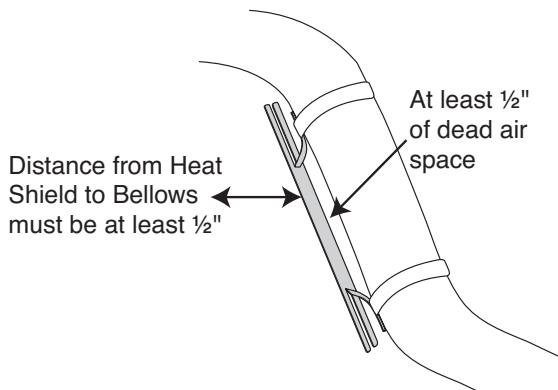

fig. 14
2. Attach the heat shield (Q) to the exhaust pipe using the clamps (R) (Figure 14). Bend the heat shield for maximum clearance to the air spring.